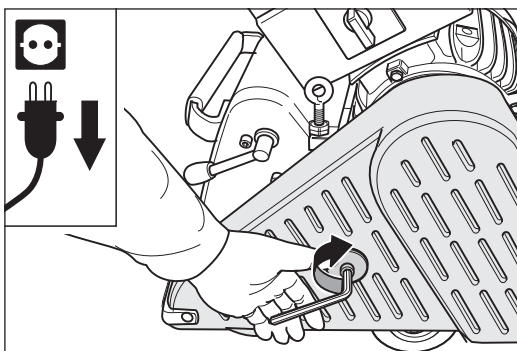

Fig. 64 Close the belt guard.
- 8 Close the belt guard (fig. 64).